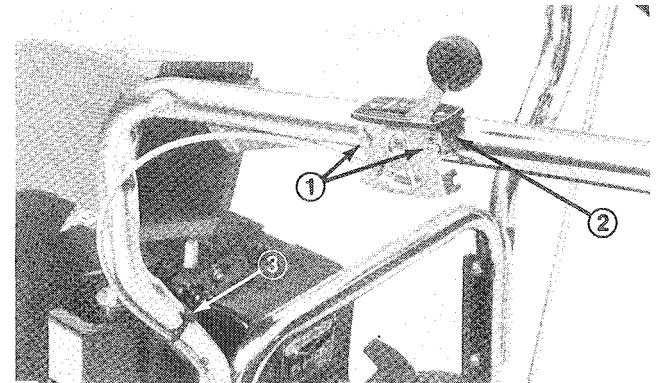

Figure 5
5. Attach the throttle control assembly to the outside of the left side of the upper handle with two self-tapping screws, star washers, and nylon spacers (Fig. 5).
6. Secure the cable to the handle with the cable tie (Fig. 5).